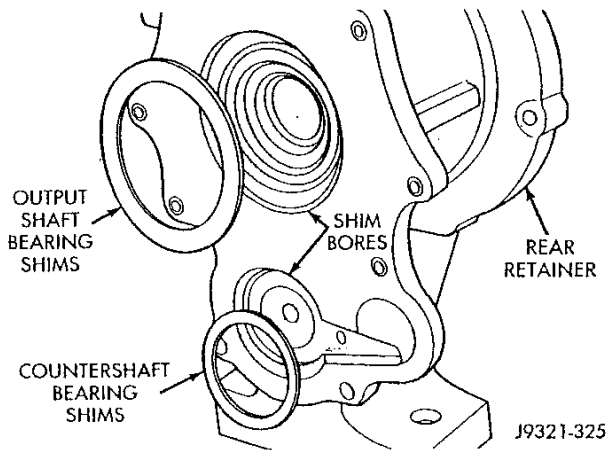

Fig. 69 Preload Shim Location
(5) Select preload shims for shaft bearings as follows: Subtract height of bearing from depth of shim bore. Then add extra shim thickness of 0.15 - 0.20 mm (0.006 - 0.008 in.) for correct preload.
(6) Assemble and install shim packs in rear retainer (Fig. 69). Use petroleum jelly to hold shim packs in place during installation. Position thin shims at rear of pack where they will seat in rear retainer shim bore.